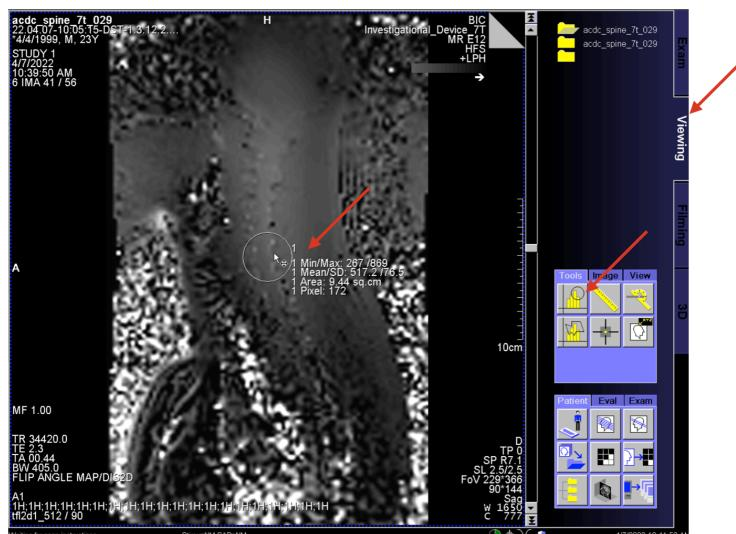

Figure 5. Mean turboFLASH flip angle measurement. In this case, the coil has been optimized for the C2/C3 level
- Select the ROI tool and place a circular ROI about 200 pixels centered on the area your coil is optimized for disk. See **Figure 5** for ROI placement and size.
Where $RefVol_{seq}$ is the reference voltage with which the sequence was run (i.e., the Reference Voltage determined in Adjustment Step 2), and “Mean in ROI” is the mean values in the ROI on **Figure 5**
- **Sanity check for the measured flip angle:** Repeat the procedure described in Figure 5, and validate that the measured flip angle is 90 degrees
- **Sanity check for the measured flip angle:** Repeat the procedure described in Figure 5, and validate that the measured flip angle is closer to 90 degrees than in the previous scan